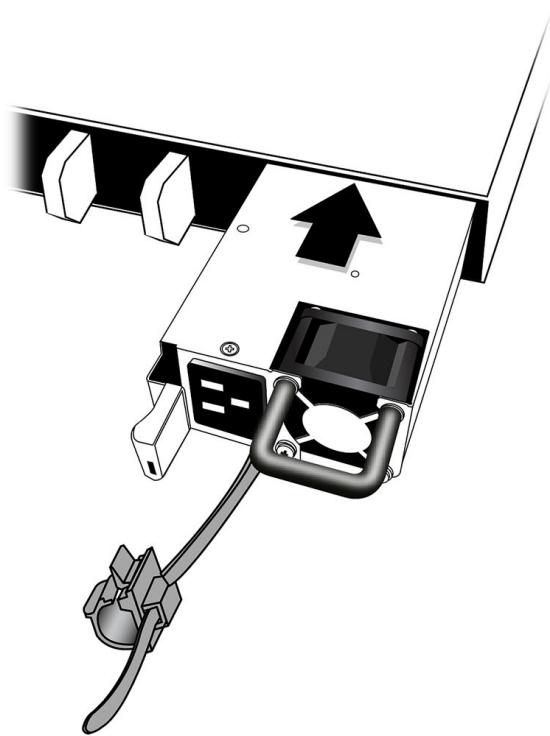

Figure 33: Installing an 800 W AC Power Supply
6. Carefully slide the power supply all the way into the power supply bay (see Figure 33).